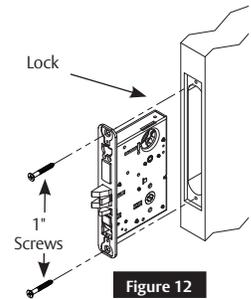

Figure 12
3. Insert mortise lock into door and hand tighten two (2) 1" combination screws. (Figure 12)